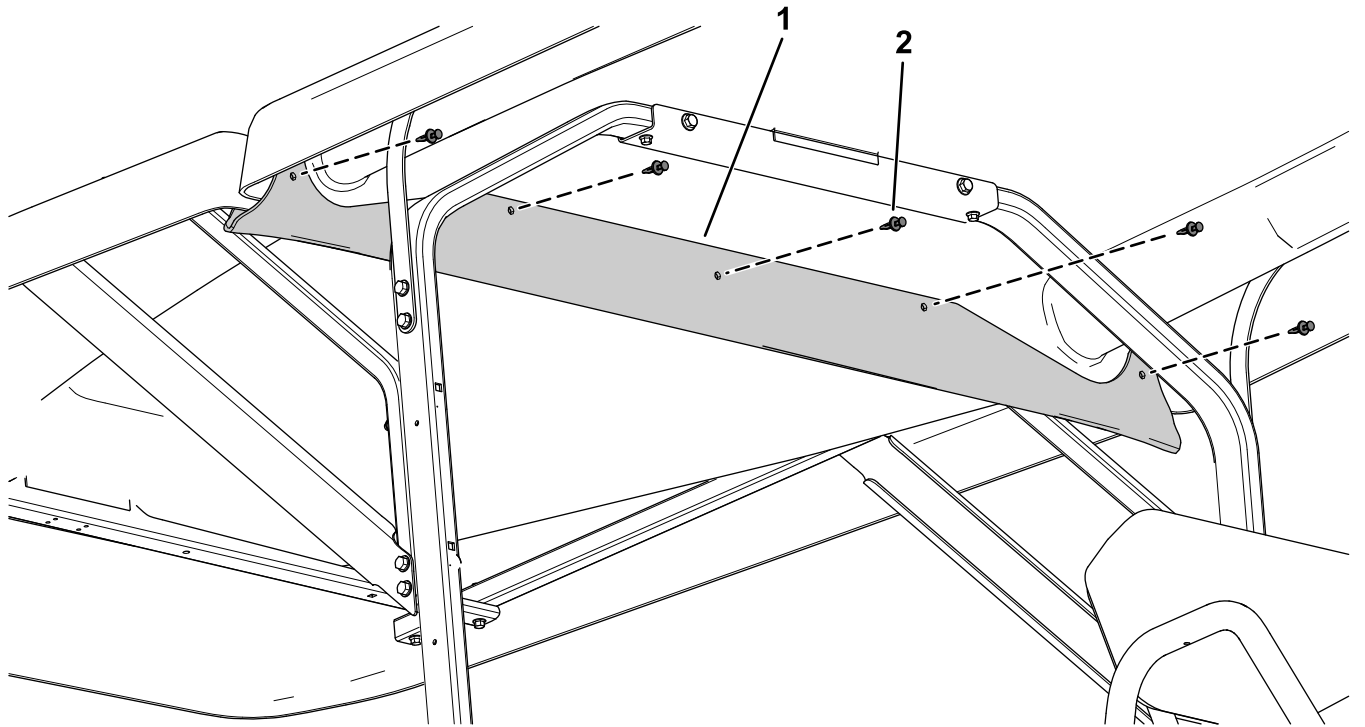

Figure 10
3. Secure the rain gutter to the front canopy side using 5 plastic rivets (Figure 10).